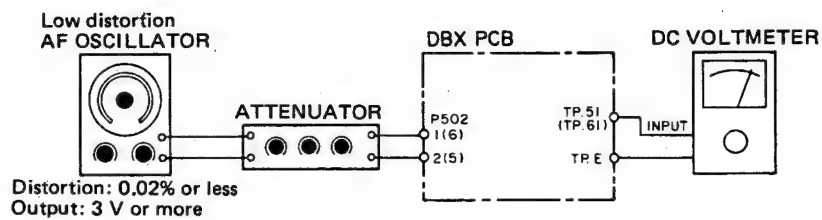

Fig. 5-11
6. Like Fig. 5-11, connect a DC voltmeter to TP51/TP61, then note the reading on the DC voltmeter with an input signal of 1 kHz/-8 dB (308 mV).
9. Check that when the input signal is 100 Hz/-8 dB (308 mV), then 10 kHz/-8 dB, the output signal from 3(4) terminal (OUTPUT) deviates by ± 0.5 dB, then -2.8 dB ± 0.5 dB from -8 dB (reference), respectively so that output, as a voltage value, should be 308 mV to 346 mV for 100 Hz, and 211 mV to 237 mV for 10 kHz.